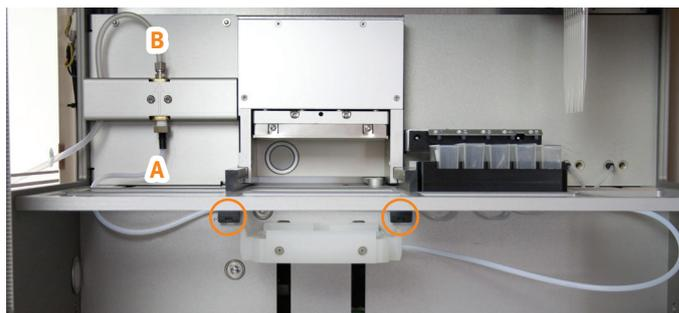

Figure 97. The two waste tubes (A and B). Note the two tube holders/clips above the extraction waste collector.
- To replace the waste tube connected between the extraction waste collector and the waste valve (see A in Figure 97):
- Unscrew and replace the tube (see A in Figure 97). Ensure to secure the tube in the correct position using the holders/clips that are highlighted in Figure 97.
- To replace the waste outlet tube connected between the waste valve and the waste reservoir (see B in Figure 97):
- Unscrew and replace the tube (see B in Figure 97).